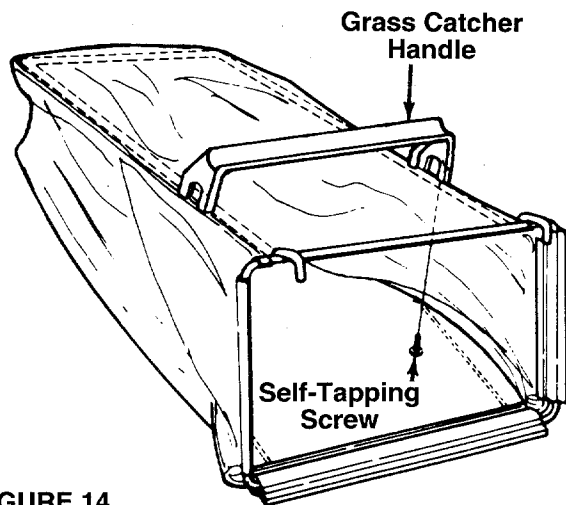

FIGURE 14.
4. Place the grass catcher handle in position on top of the grass bag and frame as shown in figure 14. Secure with four self-tapping screws.